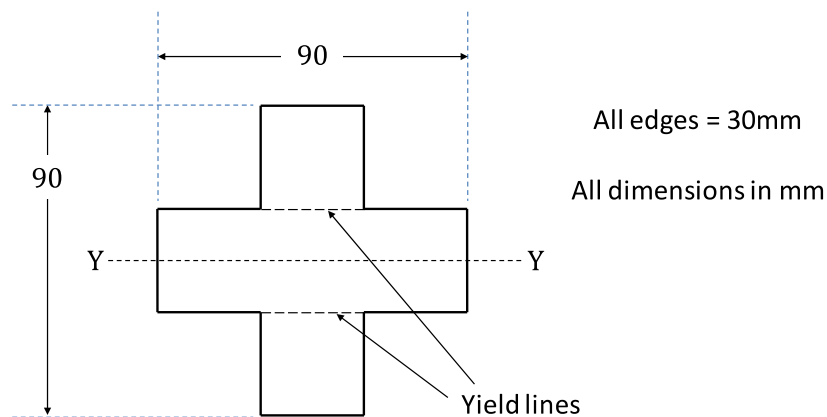

Figure Q6
6. A straight beam, with the cross-section shown in Figure Q6, is loaded in pure bending about the Y-Y axis, until yielding has occurred from the top and bottom edges to the dashed lines as shown.